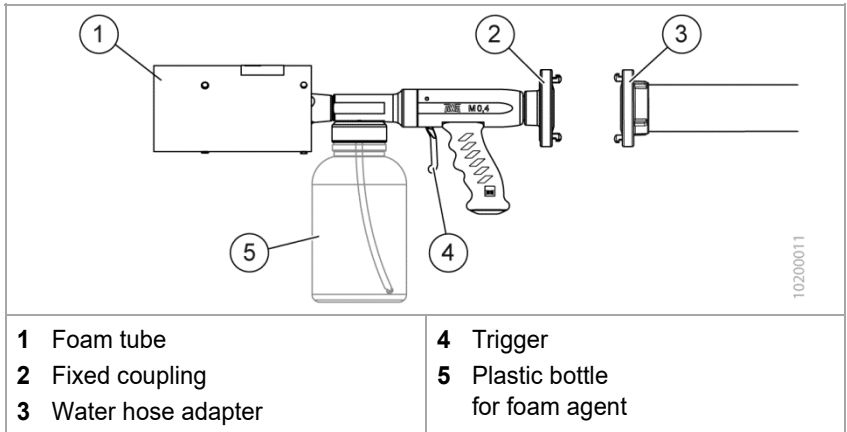

Fig. 2 Handling
1. Manually attach the coupling of the water hose (Fig. 2/3) to the coupling on the medium expansion foam pistol (Fig. 2/2).
1. Point the finishing tube (Fig. 2/1) at the source of fire or the area to be covered.
2. Open the medium expansion foam pistol by pulling the trigger (Fig. 2/4).
– Or unscrew the plastic bottle (Fig. 2/5) from the medium expansion foam pistol and pour the remaining foam agent into another container. Fill clear water into the plastic bottle and screw it to the foam nozzle.
4. Shut off the water supply and, by hand or with the use of a coupling spanner, detach the coupling of the water hose (Fig. 2/3) from the fixed coupling on the medium expansion foam pistol (Fig. 2/2).